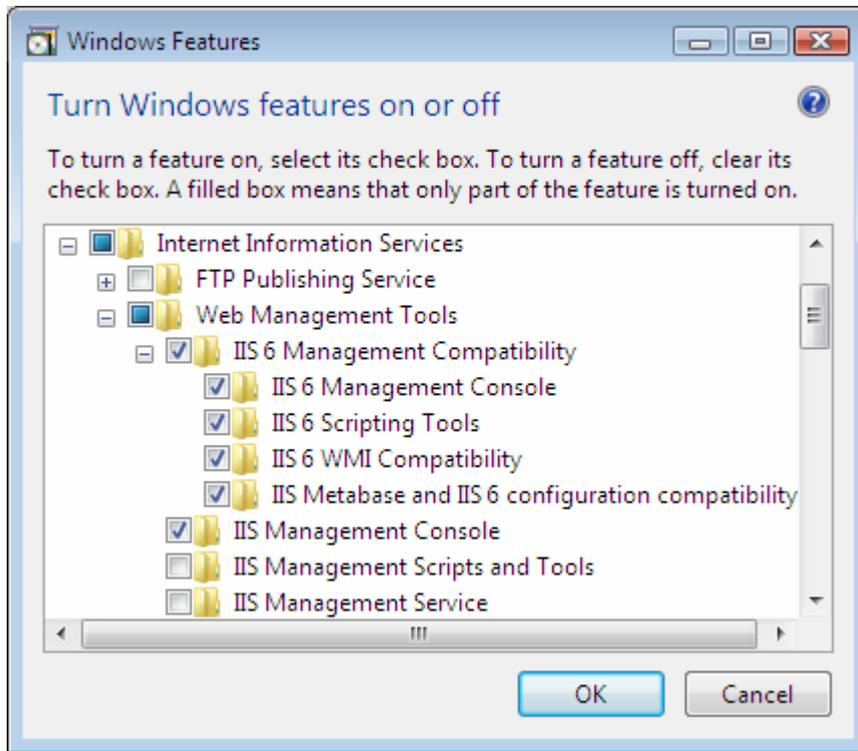

Figure 4-14: Windows Features Window – Internet Information Services
3. Expand **Internet Information Services | Web Management Tools | IIS 6 Management Compatibility**. Verify that all its branches are checked as shown in Figure 4-14.